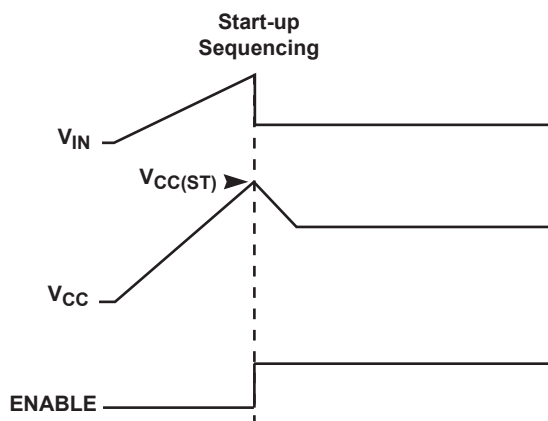

Figure 9.7 : Start-up Sequencing Diagram
Prior to start-up the V_{IN} pin charges up the V_{CC} capacitor through a diode between V_{IN} and V_{CC} . When V_{CC} is fully charged to a voltage higher than the start-up threshold $V_{CC(ST)}$, the ENABLE signal becomes active and enables the control logic, shown by Figure 9.7. When the control logic is enabled, the controller enters normal operation mode. During the first 3 half AC cycles, OUTPUT(TR) keeps high. After the dimmer type and AC line period are measured, the constant current stage is enabled and the output voltage starts to ramp up. When the output voltage is above the forward voltage of the LED, the controller begins to operate in constant current mode.